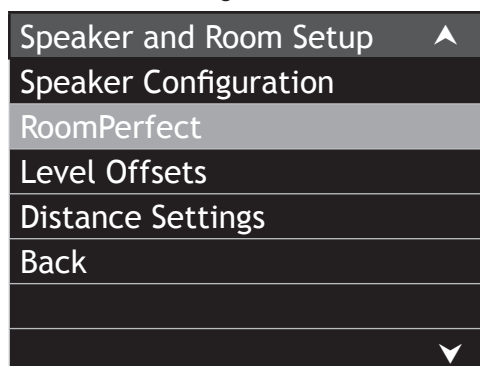

Figure 21
2. Then using the Remote Control select “RoomPerfect”. Refer to figure 21.